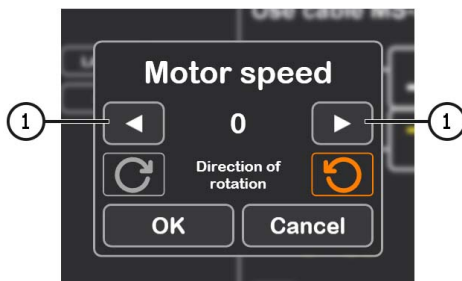

Figure 26
3.1. After activating the diagnostics mode, a preliminary alternator check window will open, see Figure 26.
3.2. Using the alternator drive control buttons (see item 1 in Figure 26), set the speed of the alternator pulley rotation within the range of 100 to 150 rpm.
4. After clicking the "Automatic test" button, a preliminary alternator check window will appear, see Figure 26.
4.1. Using the alternator drive control buttons (see item 1 in Figure 26), set the speed of the alternator pulley rotation within the range of 100 to 150 rpm.
3. Before activating the diagnostic mode, a preliminary alternator check window will appear, see Figure 26.
- 3.1. Using the alternator drive control buttons (see position 1 in Figure 26), set the alternator pulley rotation speed within the range of 100 to 150 rpm.